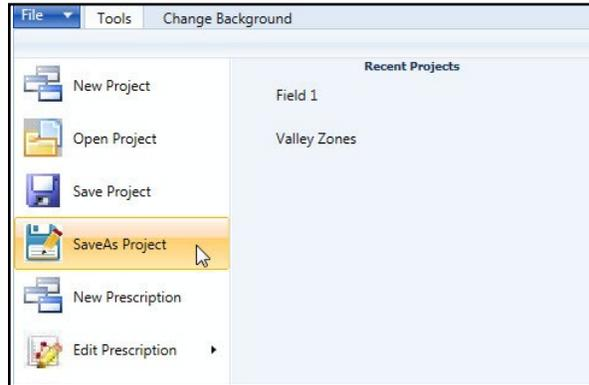

Figure 30-1 VRI Drop-down Menu
1. Click on the VRI drop-down menu, and select **SaveAs Project**. See Figure 30-1.